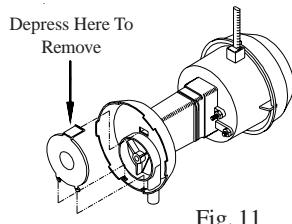

Fig. 11
- Clean pump.** Cleaning the pump is necessary once a year at start-up. For your safety, turn unit off and unplug motor and pump. Remove the pump from the mount slot. Remove the base of the pump as shown in Fig. 11. Clean the pump and turn the impeller to ensure free operation. Remove the pump spout and check for any